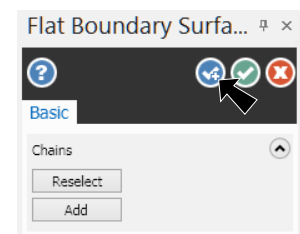

Fig. 18
Step 6. In Flat Boundary Surface function panel click **OK and Create New Operation** , **Fig. 18**.